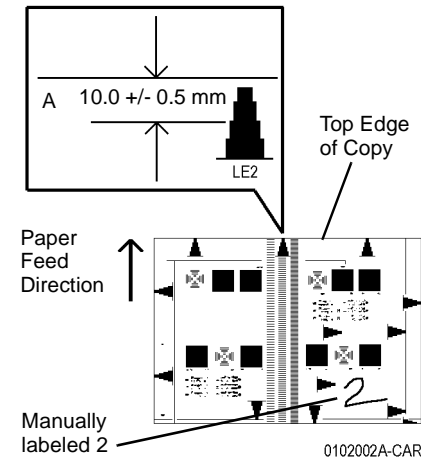

Figure 1 Verifying Top Edge Registration of DADF Originals
- a. On copy 2 (Original 2), measure the distance between the top edge of the copy and the reference line on metric LE2, and write A and the measurement on copy 2. Figure 1